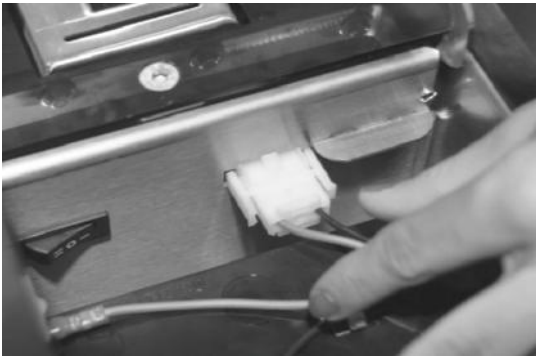

Figure 37—System battery conector location.
- Disconnect the system battery connector, located next to the “ON/OFF/ON” button (**Figure 37**).